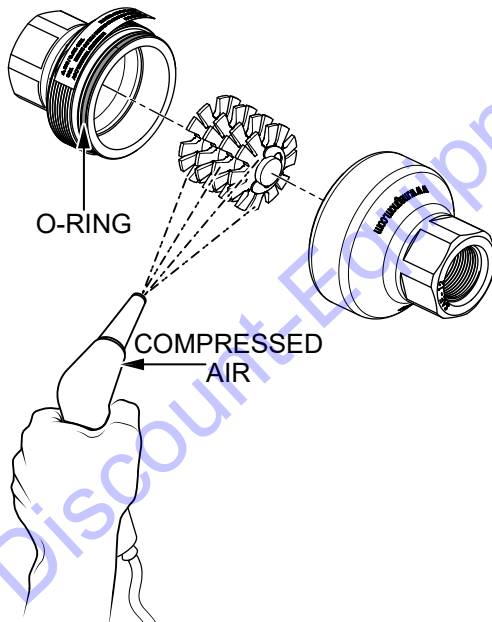

Figure 72. Magnetic Filter Cleaning
2. Disassemble the magnetic filter (Figure 72) and clean it thoroughly with compressed air.
3. Inspect the O-ring (Figure 72) and clean it with a dry rag to remove debris if necessary. Replace the O-ring if it is damaged.